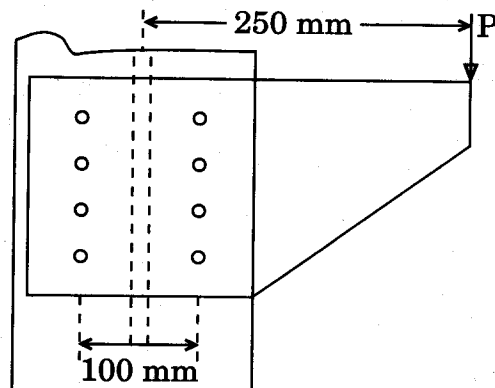

Figure 8
- (b) A bracket plate is connected to a flange of ISMB 500 as shown in Figure 8. Find the safe load  $P$  carried by the joint. M 16 bolts of grade 4.6 are provided at a pitch of 50 mm and end distance 30 mm.